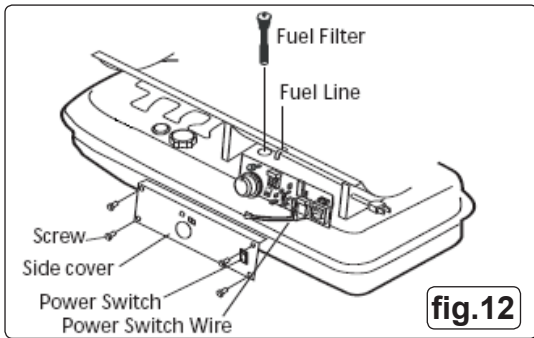

fig.12
6.5 Fuel filter. The fuel filter (fig.12) should be cleaned twice per season, unless contamination occurs where it will require cleaning immediately. To clean the filter, remove and wash in paraffin.